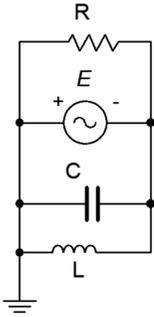

Figure 3.11
16. Determine all of the branch currents for the circuit shown in Figure 3.11 given  $E = 2$  volt peak sine,  $R = 1$  k,  $X_C = -j2$  k. and  $X_L = j3$  k.